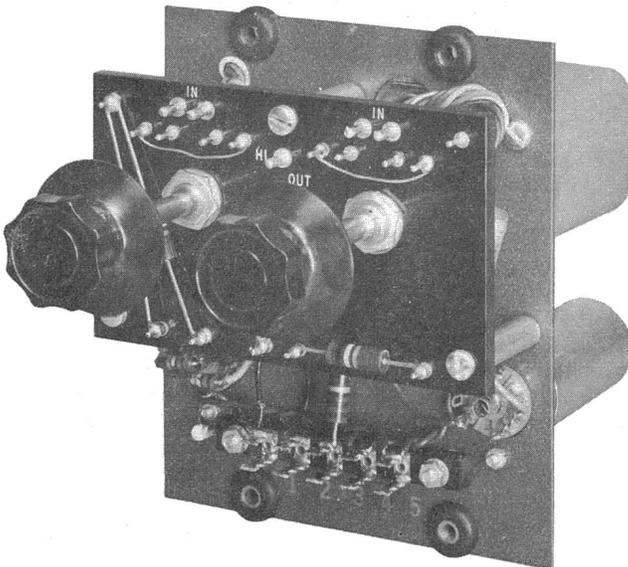

Figure 14 - Altec-Lansing 1510A Preamplifier
3.28 The Altec-Lansing 1510A amplifier is shown in Figure 14. This preamplifier is designed for use with the 1530A Altec amplifier. The maximum gain of this preamplifier is 47 db when terminated in a 100,000-ohm load. Source impedances of 30/50, 125/150, 250/300, and 500/600 ohms are available. It requires 6.3 volts ac at 0.45 amperes and 300 volts dc at 5 ma. It measures 5-3/16" high, 4-7/16" wide, 5" deep, and weighs 2-3/4 pounds.